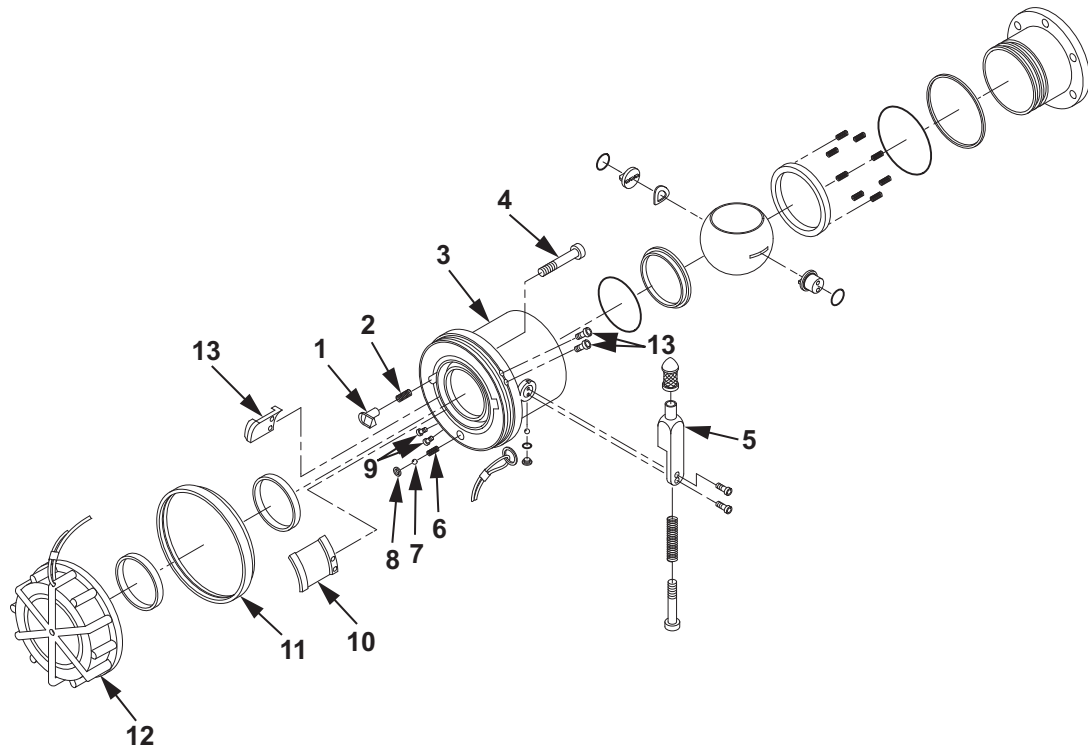

Figure 2. Valved Dry-Break Coupling Assembly.
Do not remove spring washer (Figure 2, Item 8), ball bearing (Figure 2, Item 7) or spring (Figure 2, Item 6). If replacement of ball bearing (Figure 2, Item 7) is required, then coupling (Figure 2, Item 3) must be replaced.
If it is necessary to replace lockout pin (Figure 2, Item 29), perform the following removal steps.
33. Remove screw (Figure 2, Item 4) from coupling (Figure 2, Item 3).
34. Remove lockout pin (Figure 2, Item 1) from coupling (Figure 2, Item 3).
35. Remove spring (Figure 2, Item 2) from coupling (Figure 2, Item 3).
2. Inspect bumper (Figure 2, Item 11) for cracks, tears or cuts. If cracks, tears or cuts are found, replace with a serviceable like item.
3. Inspect dust cap (Figure 2, Item 12) for cracks or damage. If cracks or damage is found, replace with a serviceable like item.
4. Inspect ball bearing (Figure 2, Item 7) located in face of coupling (Figure 2, Item 3) for damage. Push the ball bearing (Figure 2, Item 7) in and ensure it pops back into place. If damage is found or ball bearing does not pop back into place, replace coupling (Figure 2, Item 3).
5. Inspect control arm (Figure 2, Item 5) for cracks or damage. If cracks or damage is found, replace with a serviceable like item.
If it was necessary to replace lockout pin (Figure 2, Item 1), perform the following installation steps.
1. Install screw (Figure 2, Item 4) into coupling (Figure 2, Item 3).
2. Install spring (Figure 2, Item 2) into coupling (Figure 2, Item 3) and over screw (Figure 2, Item 4).
3. Install lockout pin (Figure 2, Item 1) into coupling (Figure 2, Item 3).
4. Tighten screw (Figure 2, Item 4) until ramp edge of lockout pin (Figure 2, Item 1) is even with or slightly below the adjacent ledge of coupling (Figure 2, Item 3).